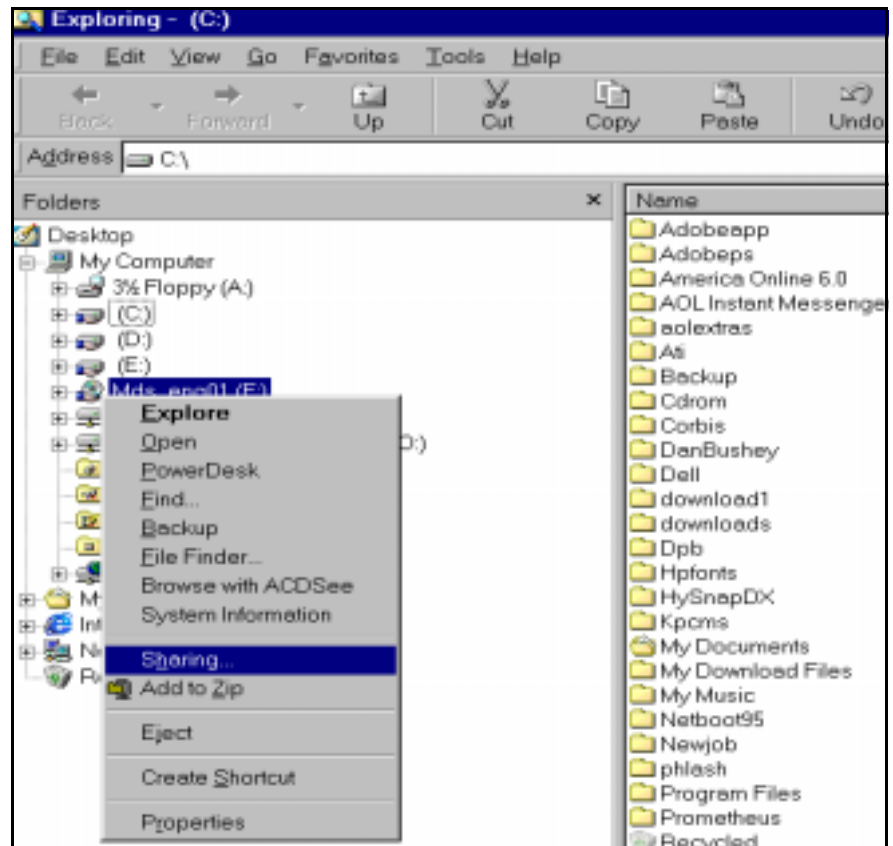

Figure 8-6 Windows Explorer
- 2) At "Exploring" window, right-click on *CDROM* icon and select *Sharing* from drop down menu (see Figure 8-6).